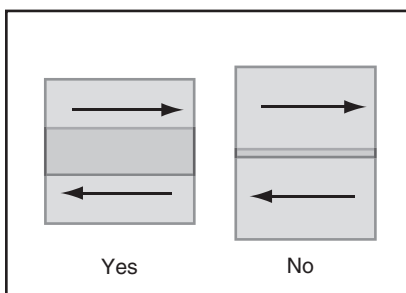

Figure 8. Overlap technique.
12. Overlap each stroke by 50%. This will ensure even coverage as shown in **Figure 8**. Overlapping less than 50%, as shown in the figure to the right, may lead to missed spots or streaky results.